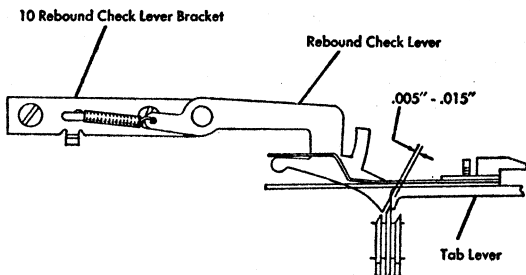

Figure 13. Rebound Check Adjustment
10. THE REBOUND CHECK LEVER BRACKET is held to the top of the rear rail by two screws in elongated mounting holes. With the tab lever held in its latched position by hand and a tab stop firmly against the tab lever, move the bracket until the engaging tip of the rebound check lever clears the tab stop by $.005''$ to $.015''$. Generally, this clearance must be maintained at the lower tolerance when adjusting the longer carriage machines. Note that the lug on the rebound check bracket serves as a guide for the margin lever. Lock the bracket in such a manner that this lug does not bind or interfere with the freedom of the margin lever (Figure 13).